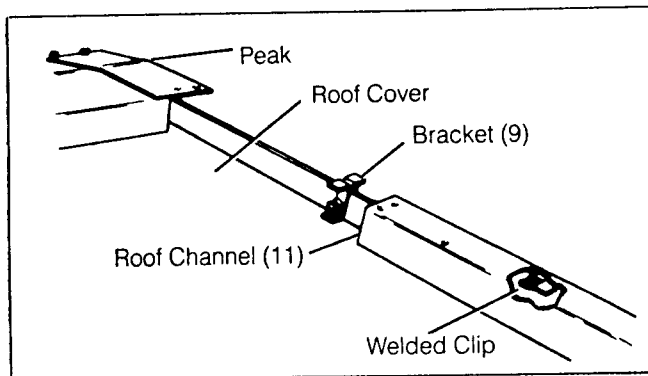
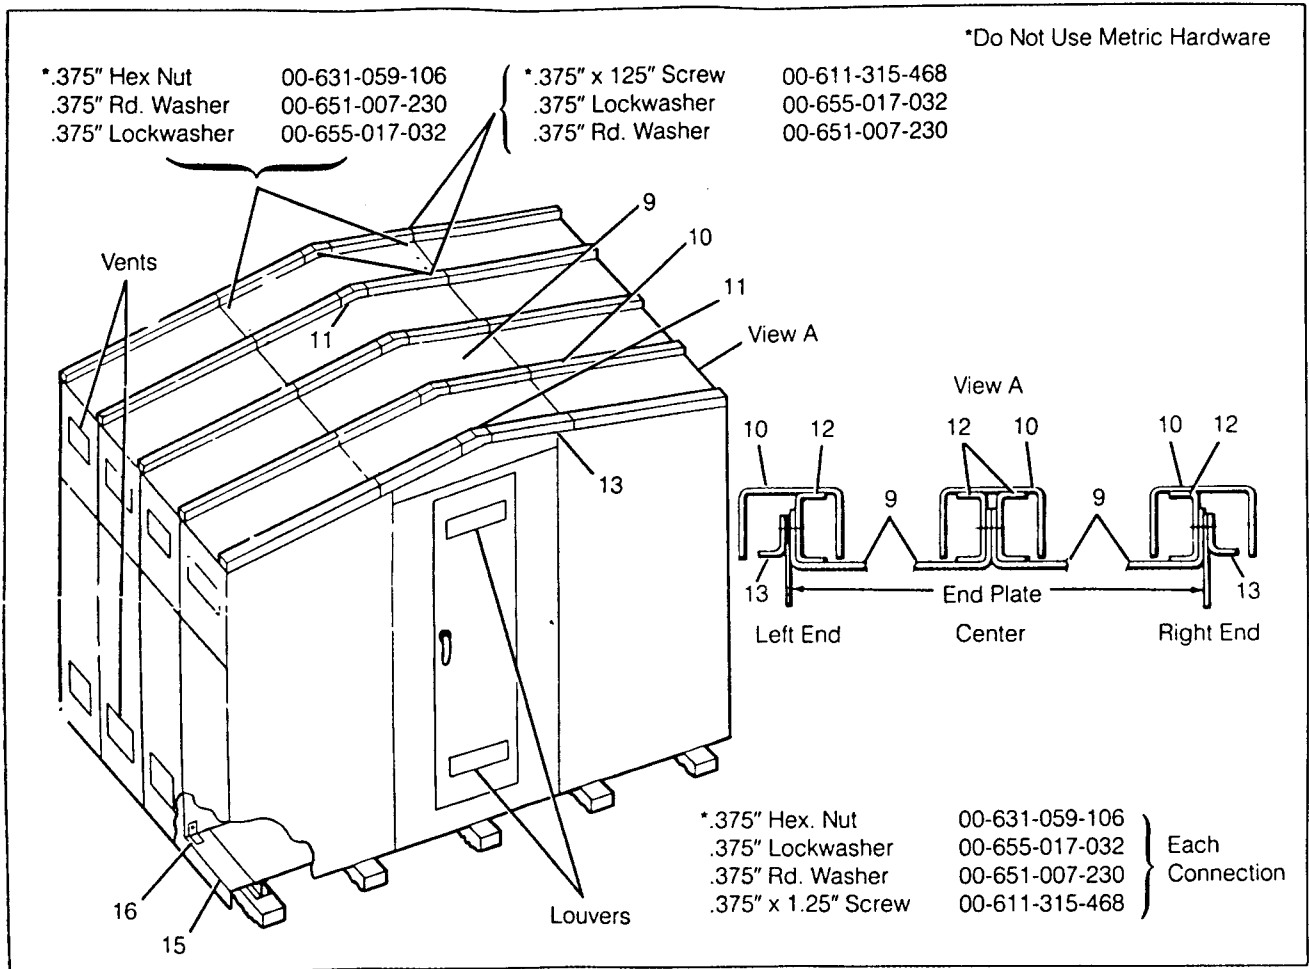

Figure 28. Roof Channel Installation — Single Aisle Layout
Figure 34. Roof Deck Installation — Common Aisle Layout
9. Fasten roof covers together using bracket (9) at positions "E" (two per joint). See view "A".
10. Install a trim angle (10) at each end of aisle.
11. See Figure 28. Set roof channels (11) over roof cover joints. Slide the channel toward the roof peak until the clip inside the channel engages the bracket (9).
9. See Figure 34. Place roof decks (9) in position and fasten with the bolts provided.
10. Fasten roof decks together using bracket (12). See view "A".
11. Add trim angle (item 13) at each end of ggpup.
12. Set channel-shaped covers (10) over the joints of roof decks and slide up the covers so the clips on the inner surface (see Figure 28) engage the brackets (12).
13. Bolt hoods (11) in place.
15. Drill cable cover (15) to suit conduit. Clamp the cover in place with angle (16).